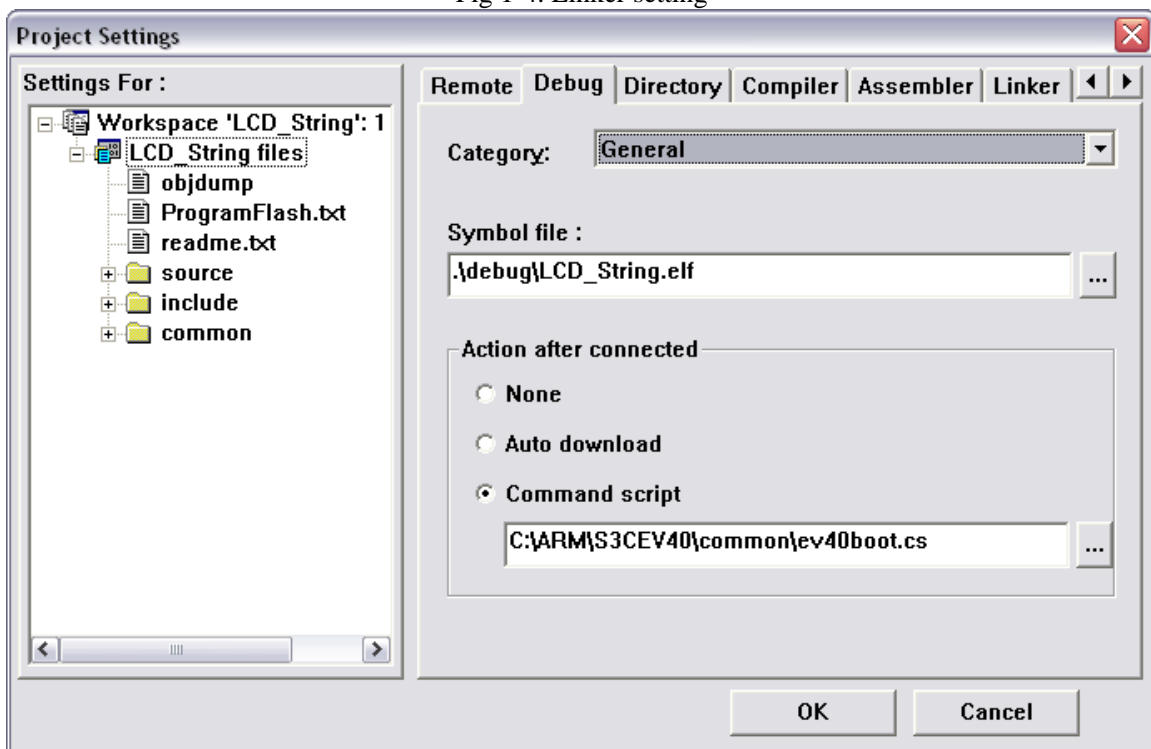

Fig 1-5. Configuring the command script.
2. Go to Project->Settings, open the Debug tab, at the bottom you will see Command script. Change the Command script path to the file “common\ev40boot.cs”. Configure as in Fig 1-5.